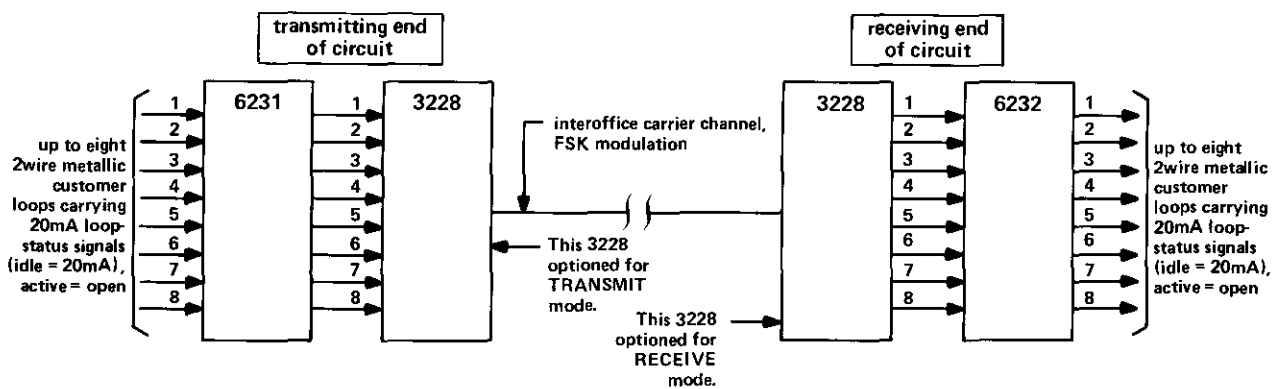

figure 4. Use of 3228 in telemetry application
2.04 A second major application of the 3228 module is in telemetry arrangements involving the Tellabs 6231 20mA-Loop-to-Level Converter and 6232 Level-to-20mA-Loop Converter modules. At the transmitting end of such an arrangement (see figure 4), a 6231 module interfaces up to eight 2wire metallic loops on its input side. These loops carry 20mA loop-status signals that are generated, in many cases, in response to relay operation initiated by blown fuses, disabled carrier channels, or changes in the operational status of other equipment. Upon receipt of these loop-status signals, the 6231 converts them to single-ended voltage levels at its eight outputs, which are, in turn, connected to the eight inputs of an associated 3228 module optioned for transmit. The 3228 processes the levels received from the 6231 for transmission to